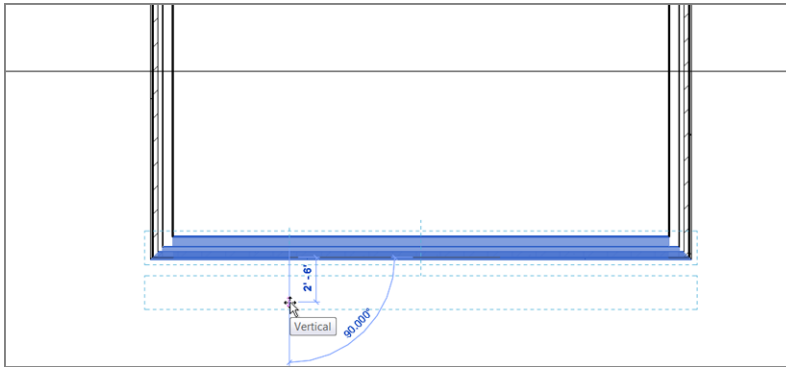

FIGURE 4.3: Moving the wall 2'-6" (750mm) also means that any adjoining walls will be adjusted along with it.
8. Type in the value 2'-6" (750mm), and press Enter. The wall moves 2'-6" (750mm). Notice that the adjacent walls move with it. In Revit, there is no stretch command (see Figure 4.3).